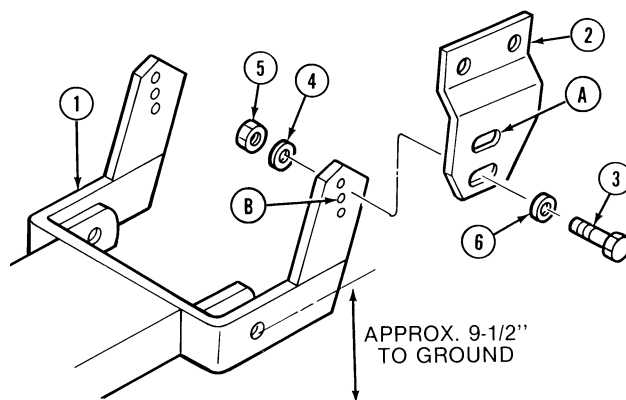

Figure 15
3. Attach the rear frame, (1), to the front mounting bracket, (2) using two 5/8" NF x 2" hex hd. bolts, (3), spacers, (6), lockwashers, (4), and nuts, (5), as shown in Figure 15. Do not tighten the bolts at this time.
NOTE: Use the front hanger/rear frame hole combination that locates the frame pivot pin nearest to 9-1/2 inches from the ground line to the pivot pin center. On 4WD tractors with turf tires only, use holes A and B, as shown in Figure 15.